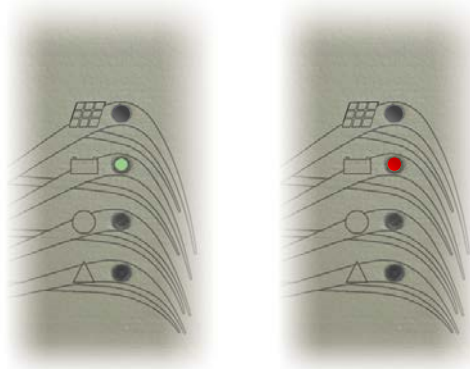

Figure 52 Status Indicator
At the end of the file transfer the FLEXmax 100 **STATUS** LED indicator will flash green rapidly. It will change to flashing red slowly, then flash red more quickly. See Figure 52 (on the next page).
10. Still pressing the **RESET** button, watch the LED indicators on the FLEXmax 100. (See Figure 52.) When the **STATUS** LED indicator flashes green rapidly, the programming process has started. It is safe to release the button.